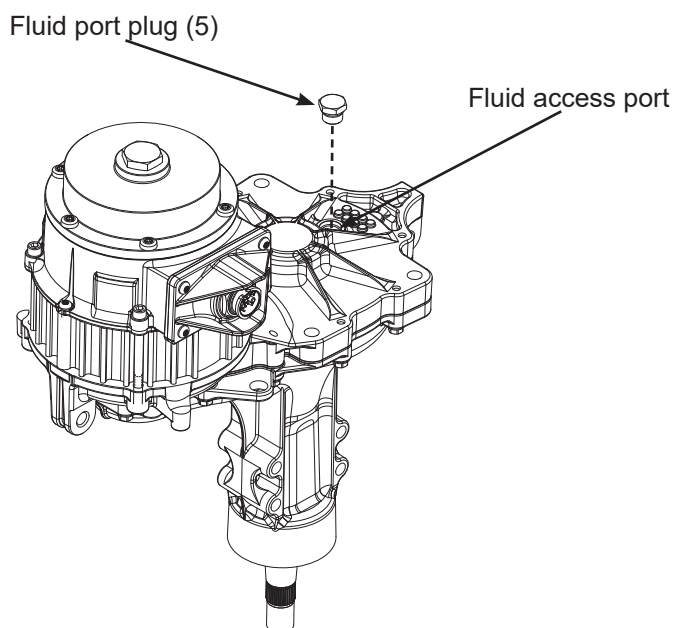

Figure 8. Fluid level and fluid access port
4. Remove the fluid port plug (5).
6. Position the transaxle as shown in figure 8 below to replace the oil.